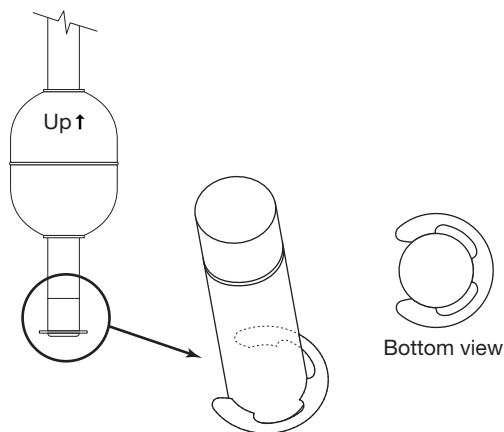

Figure 3
3. The float is held on the probe by a C-clip inserted into a groove machined into the tip of the probe. The float is attached or removed by removing and reinserting the C-clip. See figure 3. To ensure proper float orientation, the float is marked "Up ↑".